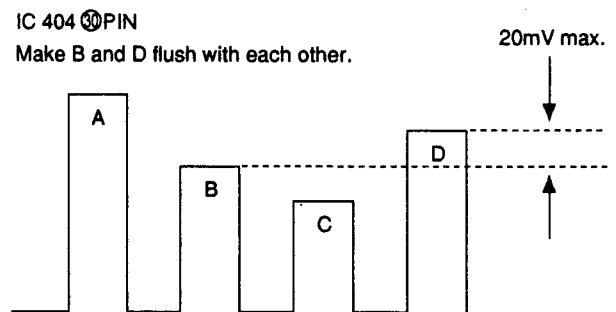

Fig. 5-31
- 2) Connect the probe of an oscilloscope to IC404 ⑩ PIN or TP402.
- 4) Adjust **CHROMA SECAM** so that the peaks of waveforms will be flush with each other as shown in Fig.5-31.